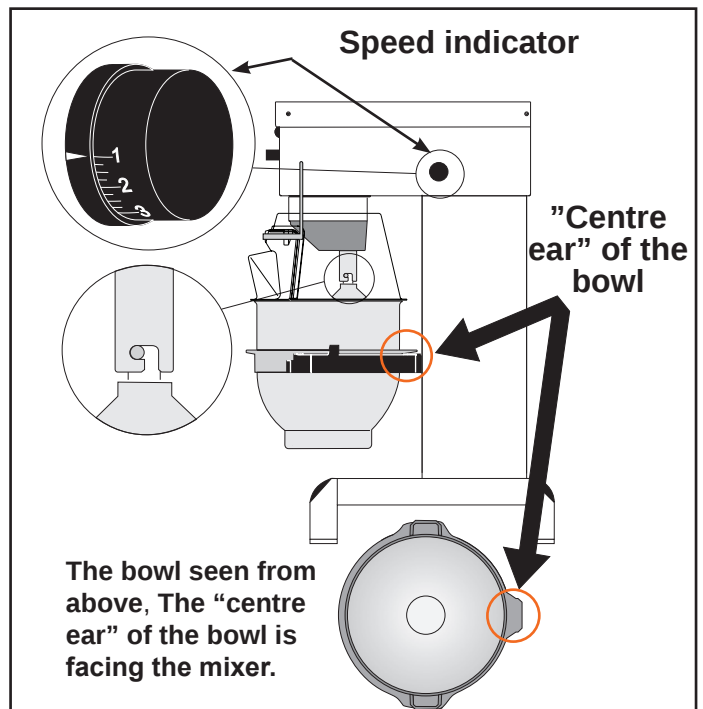

Fig 2.
- B** **Note:** the bowl arms must be in the lowest position. Place the bowl in the bowl arms. Check that the bowl is pushed right back into the arms and that the "centre ear" of the bowl arms are turning in towards the mixer (**fig. 2**). Place the mixer tool in the bayonet shaft. The tap of the tool must be turned right into the bayonet hole. Close the safety guard.
- F** Press  and  until you have reached the desired speed. You can read the speed on the indicator on the side of the mixer (**fig. 2**). See also "**Recommended max. speeds**" (**fig. 1**).